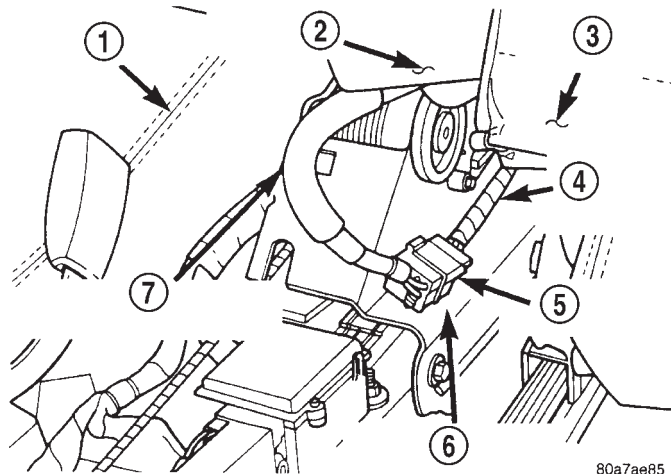
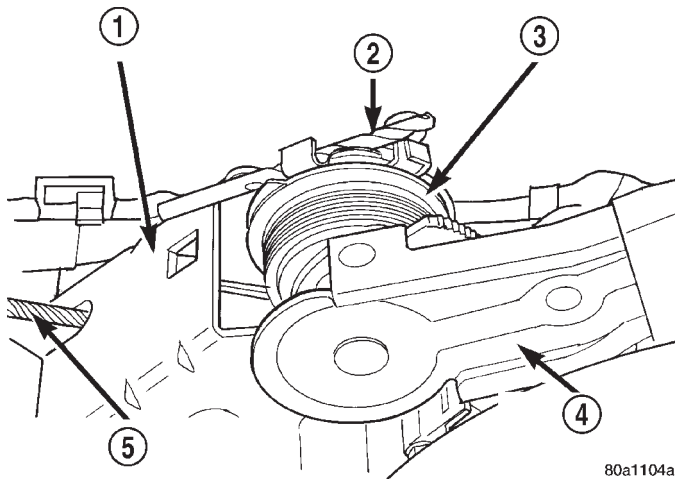
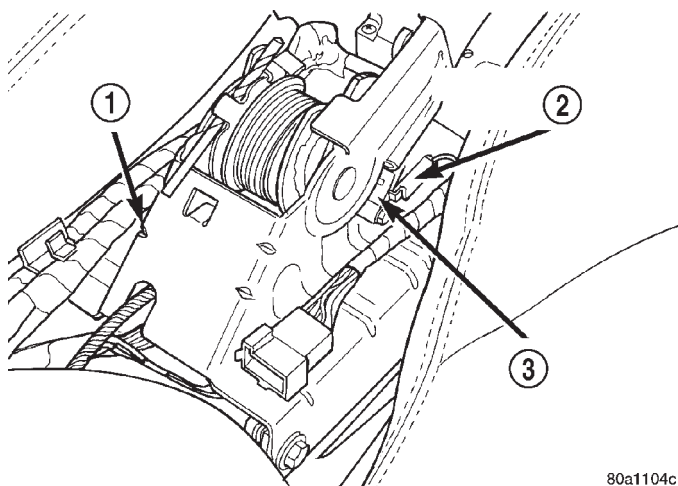

Fig. 126 Console Wiring Harness Connector
Fig. 127 Park Brake Lever Correctly Reloaded
Fig. 130 Wiring Harness Connection To Ground Switch
(5) Raise the park brake hand lever to approximately a 45° angle. This is for the required clearance to remove the center console.
(6) Raise the rear of the center console high enough to access the center console wiring harness connector (Fig. 126). Disconnect the center console wiring harness connector from the vehicle wiring harness 10 way connector (Fig. 126).
(9) Reload the adjuster mechanism on the park brake lever using the following procedure.
- Ensure the park brake lever is in the **full down position** when attempting to pull on park brake lever output cable (Fig. 127).
- Grasp the park brake lever output cable (Fig. 127) by hand and pull upward.
- Continue to pull upward on cable until a 15/64 drill bit can be inserted in the adjuster mechanism as shown in (Fig. 127). This will lock-out the auto adjuster mechanism removing the tension from the park brake lever output cable. This will then allow the rear park brake cables to be easily removed from the equalizer.
(11) Disconnect the wiring harness from the ground switch on the park brake lever (Fig. 130).
(12) Remove the wiring harness routing clips from both sides of the park brake mechanism bracket. Move the wiring harnesses out of the way.
(3) Unload the adjuster mechanism on the park brake lever using the following procedure.
- Grasp the park brake lever output cable by hand and pull upward until all tension is removed from the drill bit used to reload the adjuster mechanism (Fig. 127).
- Remove the drill bit from the adjuster mechanism of the park brake lever (Fig. 127).
(4) Clip the wiring harness to the park brake lever bracket.
(5) Install the wiring harness connector on the ground switch of the park brake lever (Fig. 130).
(6) Cycle the park brake lever once from the released position to the fully applied position and then back to the released position. This will position the park brake cables and fully adjust them to their proper tension.
(7) Check the rear wheels of the vehicle with the park brake lever fully released, they should rotate freely without dragging.
(8) Raise the park brake hand lever to approximately a 45° angle. This is necessary for the required clearance to install the center console.
(9) Install the center console back in the vehicle.
(10) Install the wiring harness connector for the center console into the vehicle wiring harness (Fig. 126).